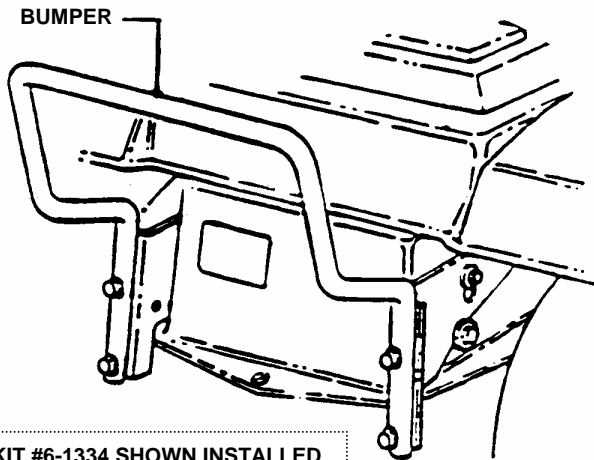

FIGURE 6
STEP 6: Adapter Kit Installation (Tractors only). Install Adapter Kit #6-1334 per instructions supplied with kit. See Figure 6.